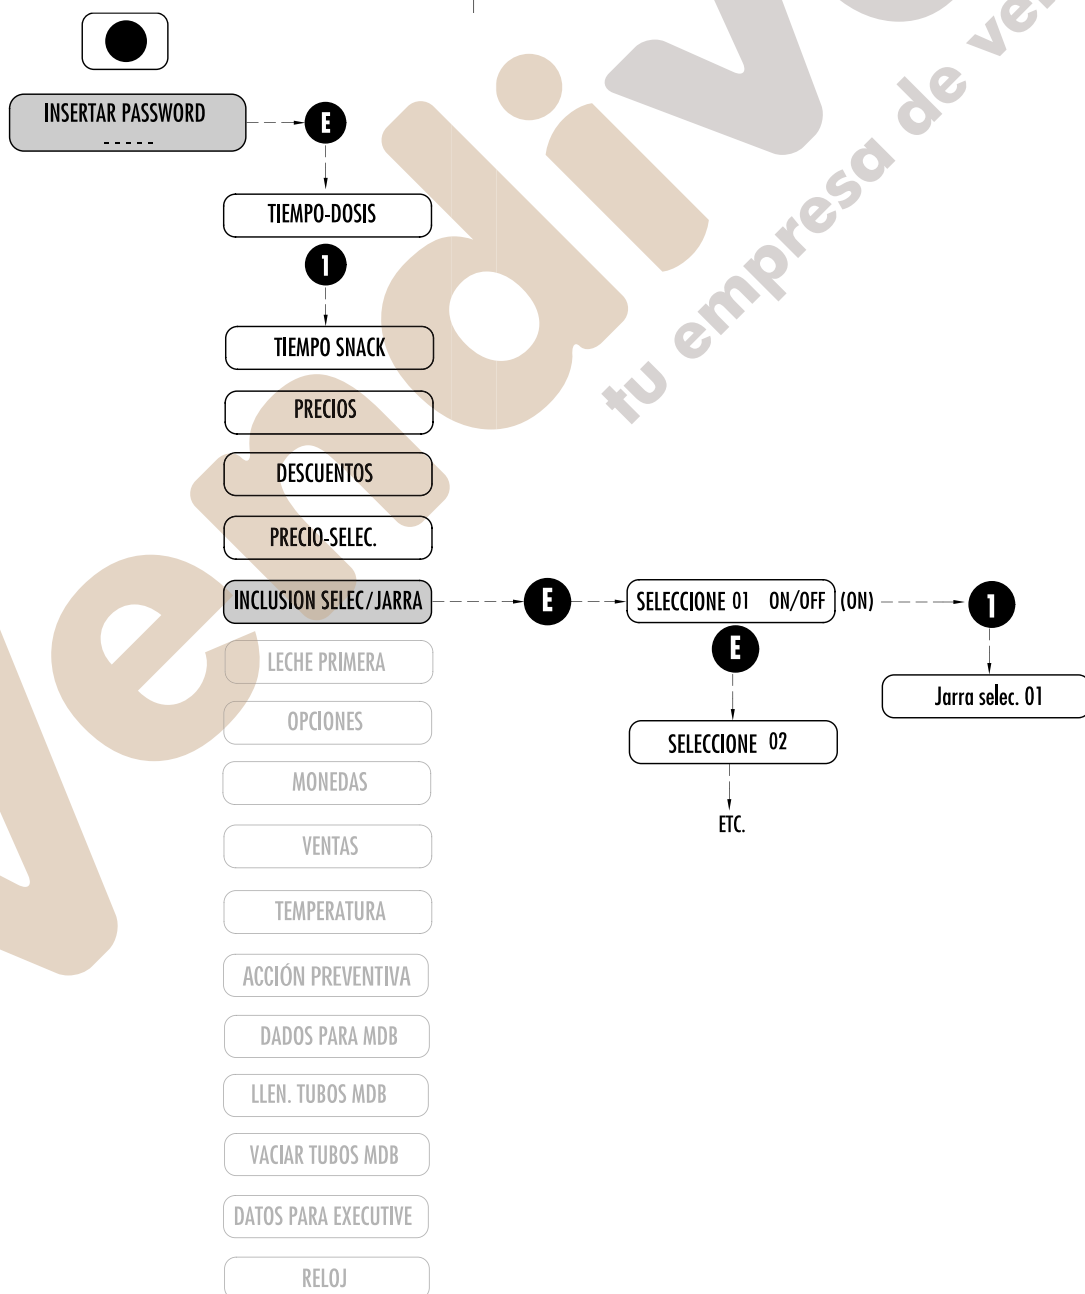

Fig. 7.8
7.2.6 INCLUYE SEL/JARRA (Fig.7.8)